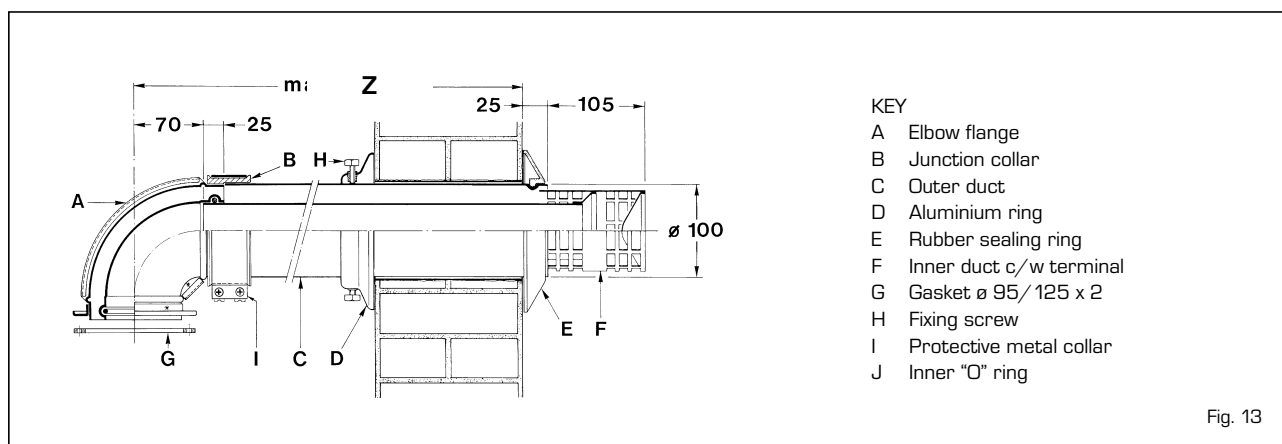

Fig. 13
- Cut the hole in the wall for the flue/air duct. The diameter should not be less than 100 mm (4 in) and must be horizontal. If the hole is not accessible from the outside of the building, its minimum diameter should be sufficient to allow the insertion of the wall liner (130 mm - 5 1/4 in diameter) which will be sealed with mortar. Refer to fig. 13. (The wall liner is available as an optional extra).
air duct as shown in fig. 13. Ensure that it is the correct way around and spray the outside surface with talcum powder or soap solution to reduce friction.
- Fit the rubber sealing ring into the swaged groove in the air duct as shown in fig. 13. Ensure that it is the correct way around.
- With reference to fig. 13, slide on the aluminium retention ring (D), check that the rubber sealing ring (E) is pulled up to the wall and that the duct assembly is horizontal, then secure the aluminium retention ring to the air duct using the two screws (H) provided. Do not overtighten the screws.
- Push the junction collar (B) over the air duct until the air duct touches the inner part of the collar where the diameter becomes smaller.
- Fit the protective metal collar (I) over the junction collar.
- Place the gasket (G) under the flange of the elbow and fit the elbow onto the top of the appliance, taking care to ensure that the silicon seal on the fan outlet correctly engages and forms a seal at its joint with the elbow. This must be checked from inside the sealed chamber.